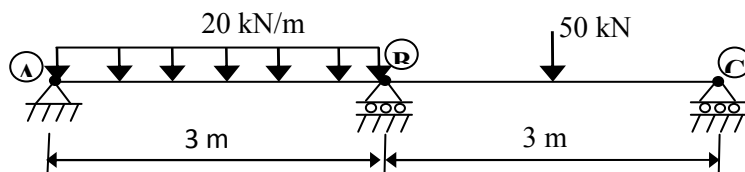

FIG. 2
- (b) Analyze the beam as shown in fig.2 using finite element method and draw shear force & bending moment diagram. Consider 2 noded beam element whose shape function is $\{ 1-3S^2+2S^3, L(S-2S^2+S^3), 3S^2-2S^3, L(S^3-S^2) \}$, where $S=X/L$. **10**